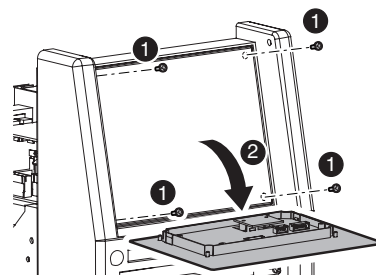

Figure 7-2: VRD ON/OFF Step B,C
- Remove four mounting screws from the control panel (see Figure 7-2).
- Access the VRD control by gently prying back the front panel controls to reveal the VRD on/off potentiometer (see Figure 7-2).